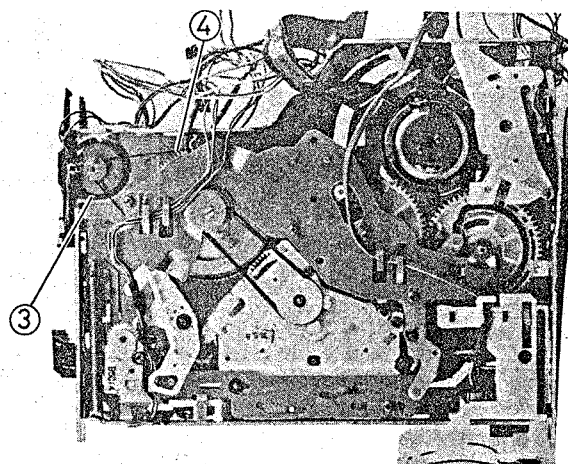

Fig. 2-85 Capstan Motor Removal
3. Remove the belt cover. (See Fig. 2-85)